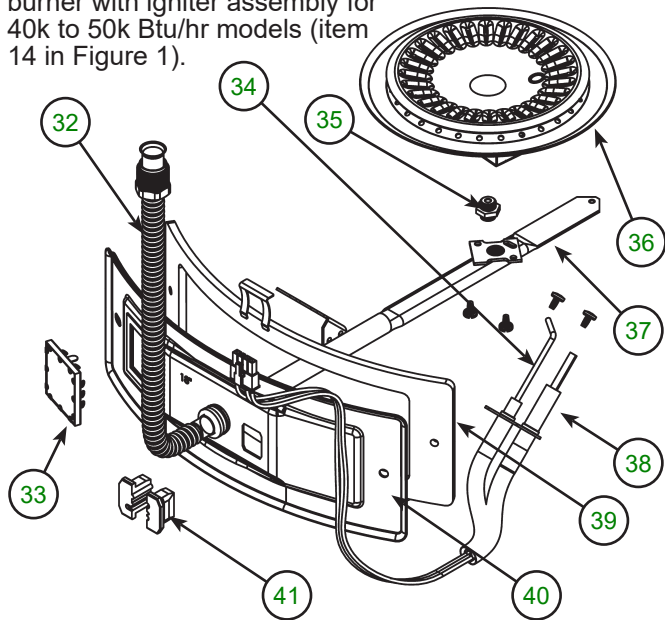
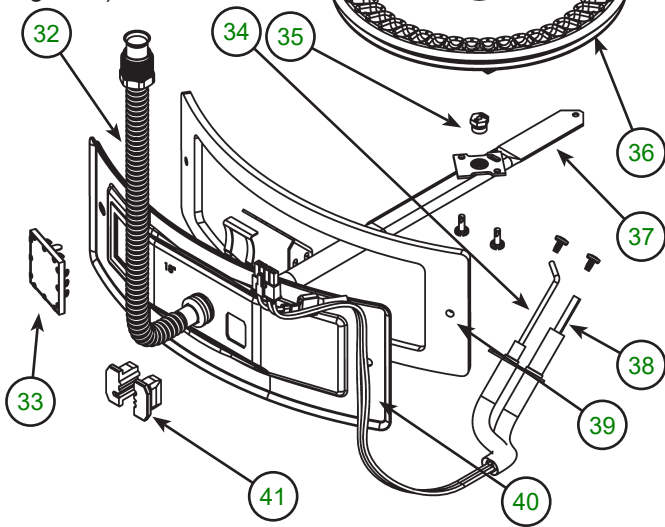
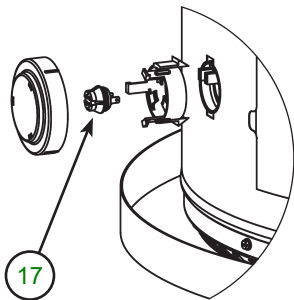
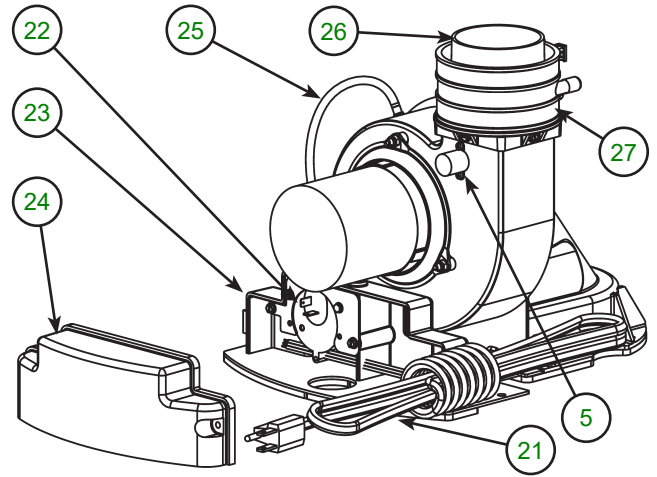

Figure 3.
Figure 4.
Figure 5.
Figure 6.
| 1 Vent Termination Elbow with Rodent Screen                               | 18 **Combo Heating System Return Inlet (Optional)     | 35 Gas Orifice (see Figure 3 and Figure 4)                   |
| 2 *Vent Pipe  | 19 Air Inlet Snorkel                                  | 36 Sheet Metal Burner (see Figure 3 and Figure 4)            |
| 3 *Vent Pipe Coupling (if required)                                       | 20 **Combo Heating System Supply Outlet (Optional)    | 37 Gas Manifold (see Figure 3 and Figure 4)                  |
| 4 *Vent Pipe Elbow (long radius)  | 21 Blower with Power Cord (see also Figure 6)         | 38 Hot-Surface Igniter (see Figure 3 and Figure 4)           |
| 5 Blower High Limit Switch (see Figure 6)                                 | 22 Air Switch (inside box) (see Figure 6)             | 39 Manifold Door Gasket (see Figure 3 and Figure 4)          |
| 6 T&P Valve   | 23 Junction Box (see Figure 6)                        | 40 Manifold Door (see Figure 3 and Figure 4)                 |
| 7 Cold-Water Inlet Nipple/Diptube   | 24 Junction Box Cover (see Figure 6)                  | 41 Two Piece Grommet With Clip (see Figure 3 and Figure 4)   |
| 8 Baffle Assembly   | 25 Air Tubing (see Figure 6)                          | 42 *Inlet Water Shut-off Valve                               |
| 9 * Discharge Pipe  | 26 Rubber Coupling (see also Figure 6)                | 43 *Gas Supply*  |
| 10 Gas Control Valve/Thermostat (Honeywell)                               | 27 Gear Clamp (see also Figure 6)                     | 44 *Main Manual Gas Shut-off Valve                           |
| 14 Manifold Door Assembly (behind outer door) (see Figure 3 and Figure 4) | 31 ***Control Harness                                 | 48 Rating Plate  |
| 15 *Floor Drain   | 32 Flexible Manifold Tube (see Figure 3 and Figure 4) | 49 *Thermal Expansion Tank (required for all closed systems) |
| 16 *Metal Drain Pan   | 33 Viewport (see Figure 3 and Figure 4)               |  |
| 17 Flammable Vapor Sensor (under cover) (see Figure 5)                    | 34 Flame Sensor Rod (see Figure 3 and Figure 4)       |  |
This device is located on the blower (see Figure 6, item 5) and limits the maximum temperature of the blower. If the blower temperature rises above the temperature setting, the switch opens causing the heater to shut down. The switch will auto reset once the temperature drops sufficiently.
This device, located in the junction box, monitors the air pressure produced by the blower. In the event that the exhaust venting becomes blocked or sufficiently restricted, the switch will shut the heater down (see Figure 6, item 22).